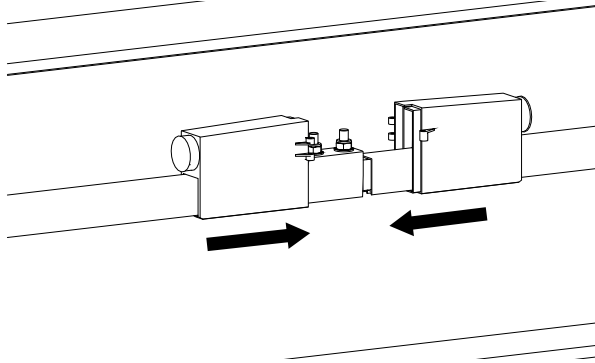
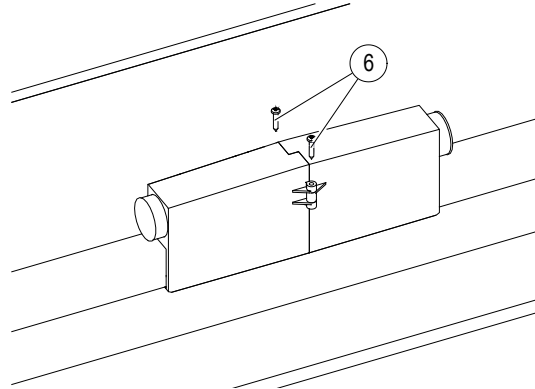

Fig. 77: Slide the insulating cap halves of the connector over the connection point
Fig. 78: Screw on the insulating cap halves of the connector
- Slide the insulating cap halves of the connector over the connection point (see Fig. 77) and tighten the two fillister head tapping screws (Pos. 6) (see Fig. 78).